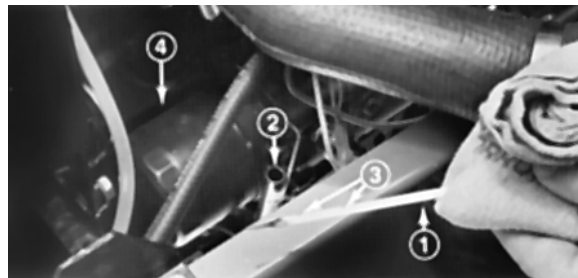
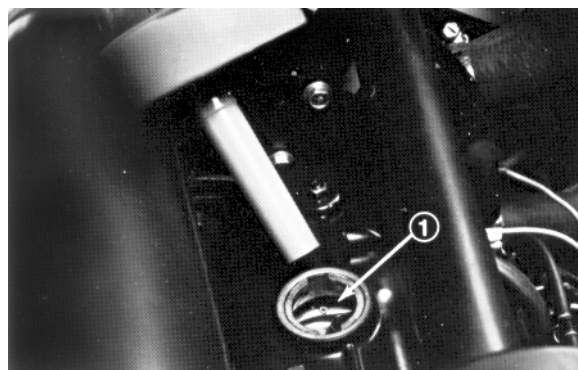

Figure 1
Figure 2
3. Remove the dipstick and wipe it with a clean cloth (Fig. 1). Push the dipstick down into the tube and ensure it is fully seated. Pull the dipstick out of the tube and check the level of the oil. If the oil level is low, remove the filler cap (Fig. 2) and add enough oil to raise the level to the top notch on the dipstick (Fig. 1). **DO NOT OVERFILL.**